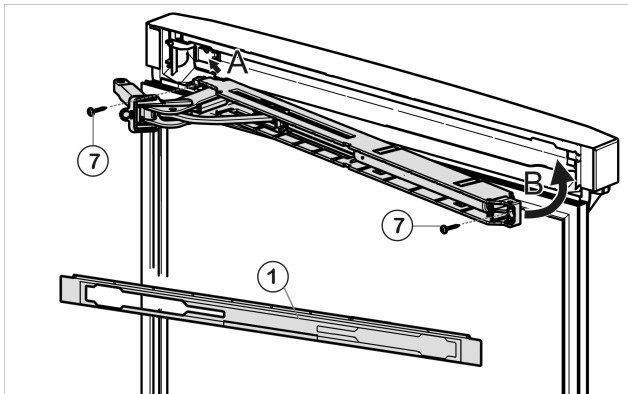

Fig. 58
- With the hinge of the upper soft stop unit facing the door hinge side, engage the soft stop unit (A) and swivel inwards (B).
- Tighten soft stop unit (2 x Torx 15) Fig. 58 (7).